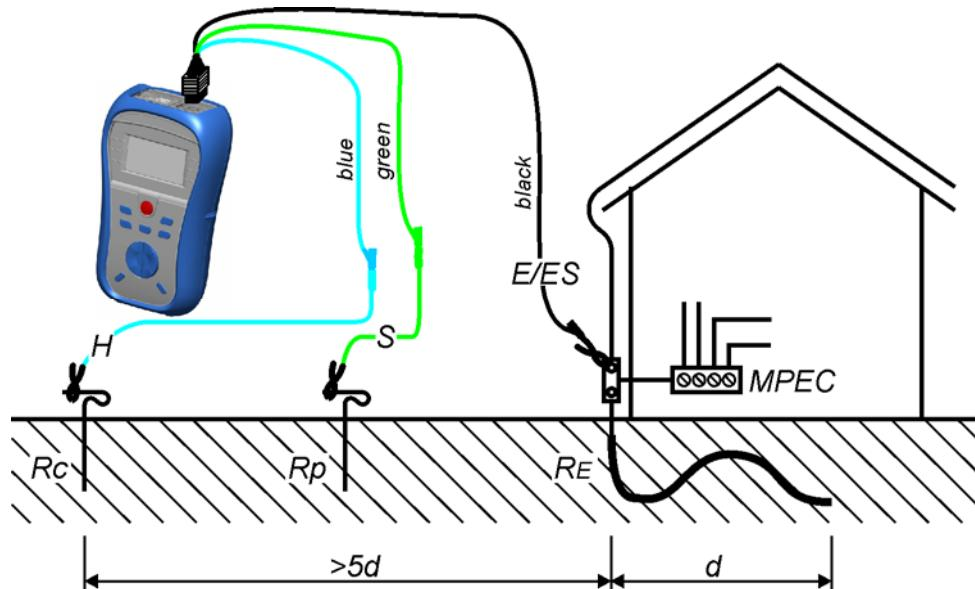

Figure 5.38: Resistance to earth, measurement of main installation earthing
- **Connect** the item to be tested (see figures 5.38, 5.39).